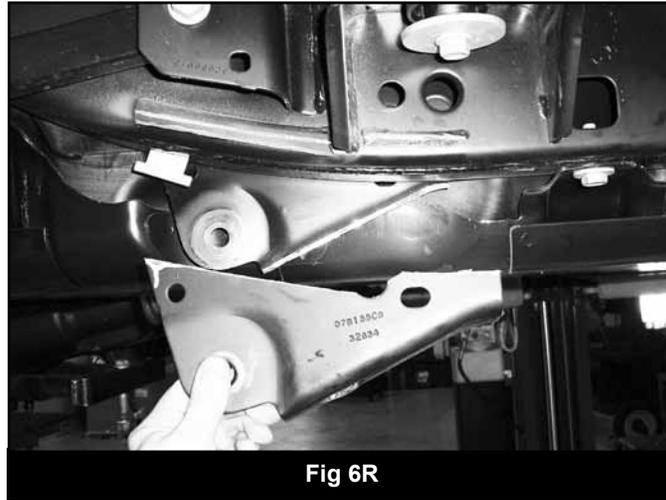

Fig 6R
17. After removing the bracket, go back and grind the weld located within the body mount smooth 1" from the end. This will allow the new mounting bracket to lay flush against the frame when installed. (Fig 6R)